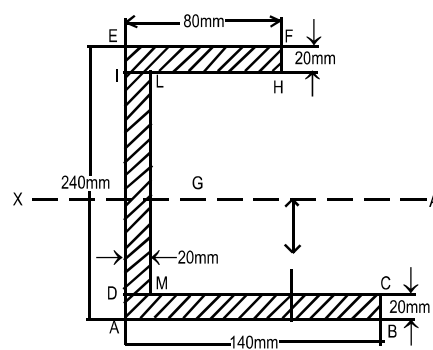

Fig. 2
- (b) Determine the moment of inertia of the cross-section of an iron beam as shown in Fig. 2 below with respect to the centroidal axis parallel to the base AB. (10)